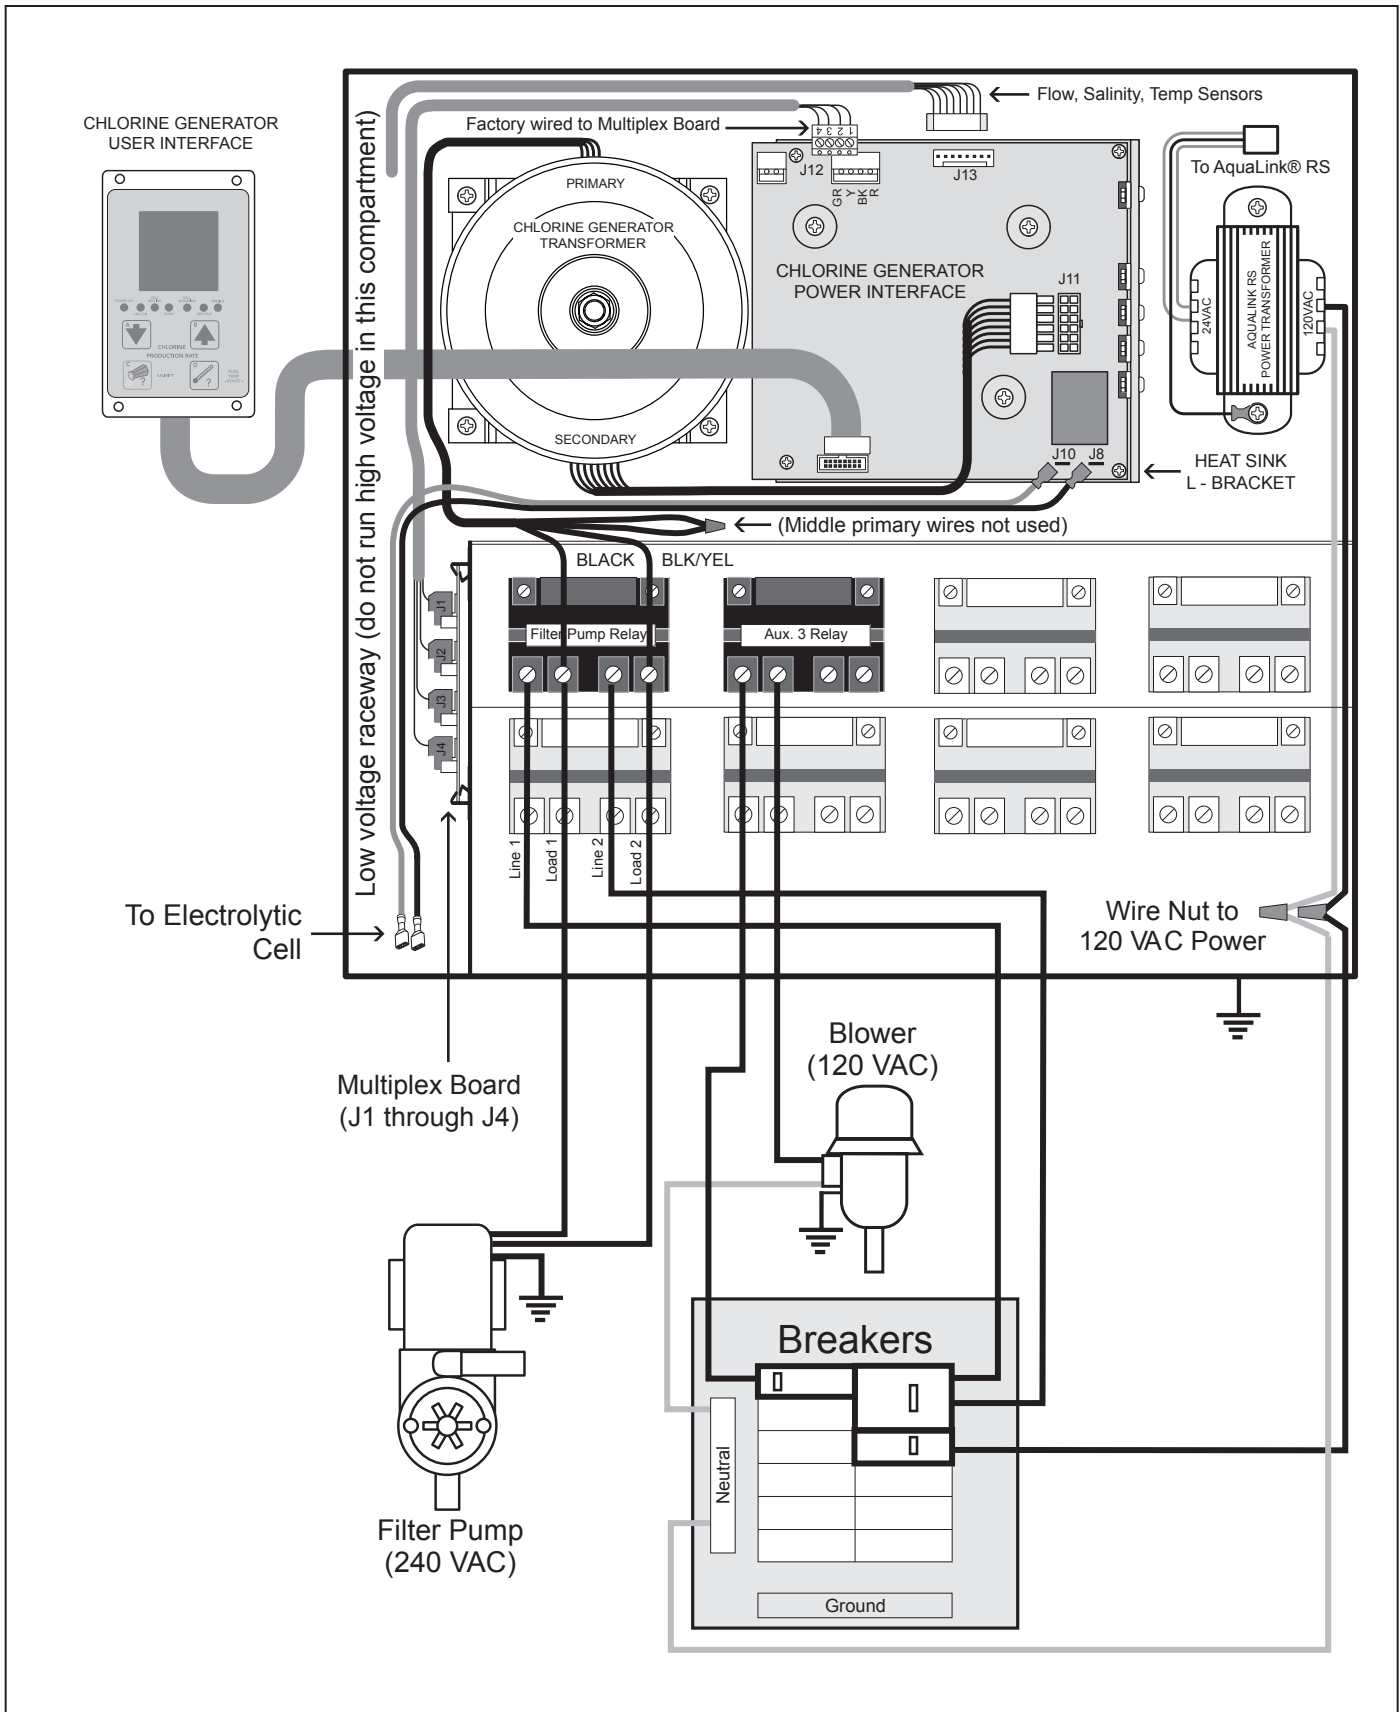

Figure 2a. 240 VAC Wiring Diagram for the AquaLink RS PureLink™ System
7. Install the strain relief provided with the electrolytic cell kit into the low voltage knock out. Feed the connector end of the flow/temp/salinity sensor cable through the DC cord strain relief fitting. **Be certain the connector is clean and dry**, then plug the cable into the connector on the power center printed circuit board as shown in Figures 2a, 2b, and 2c. (**Do not pull Flow/Temp/Salinity Sensor cable too tight, allow a little slack**).
9. Connect the DC cord to the power center. Feed the DC cord through the same strain relief fitting as the flow/temp/salinity sensor. Plug the DC cord into the two spade connectors of the wiring harness located in the low voltage raceway of the control/power center, see Figure 2a, 2b, and 2c. This wiring harness establishes the connection between the cell and the power interface PCB.
12. Plug one end of the ribbon cable into the back of the user interface and the other end into the J1 connector on the power interface PCB (see Figures 2a, 2b, 2c, and 10).